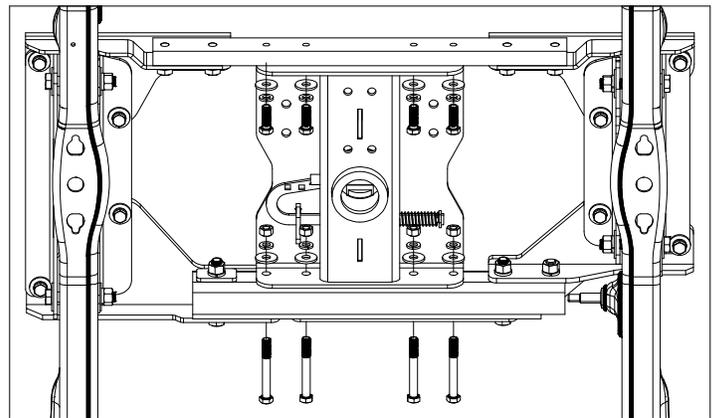

Figure D2: Bottom of truck frame looking up from the back of truck towards the cab
- 2. Install hardware.** Attach the center to the front cross member by passing 1/2" x 4" bolts through the washer plate, and cross member and into the center section. Secure the bolts with flat washers, lock washers, and nuts. Next, attach the center to rear cross member with 1/2" x 1-1/2" bolts, flat washers, and lock washers, see Figure D2.